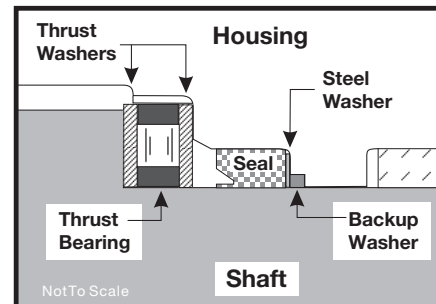

Figure 60
Assemble backup washer & seal 6. A housing (18) that did not require replacement of the bearing package will require that the two “captured” thrust washers (14) and thrust bearing (15) be unseated and vertical to the counterbore and the **new** backup ring (17), **new** backup washer (25), and **new** seal (16) be worked around the thrust bearing package and placed into their respective counterbores. The seal lip must face out of the seal counterbore and toward the inside of Torqmotor™ (see figure 60). Be sure the thrust bearing package is resealed correctly after assembly of the seal and backup washer. SEE FIGURES 35 & 36.